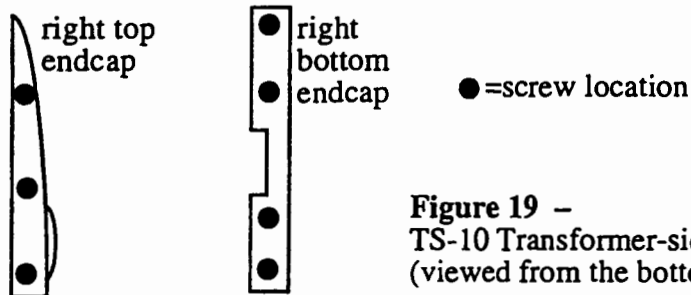

Figure 19 -
2. Turn the unit upsidedown and remove all the screws from the base and rear panel. **Note** that six (6) screws along key tip edge are self-tapping.
4. Remove the plastic endcap from the transformer side of the unit (see Figure 19):
- a) four (4) #8 x 3/8 screws from bottom endcap, then lift it up and out, and
- b) three (3) #8 x 3/8 screws from the top endcap, then pull it out to the side.